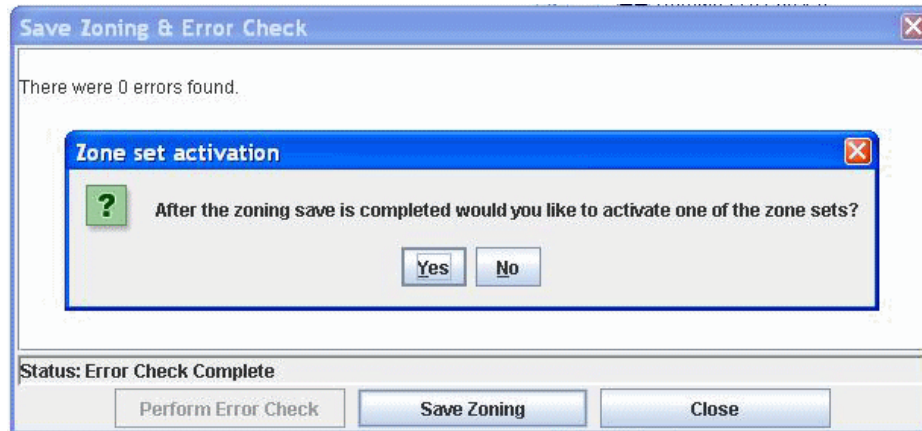

Figure 8-28 Zone set activation window
19. Click **Save Zoning**. You will see a window similar to Figure 8-28.